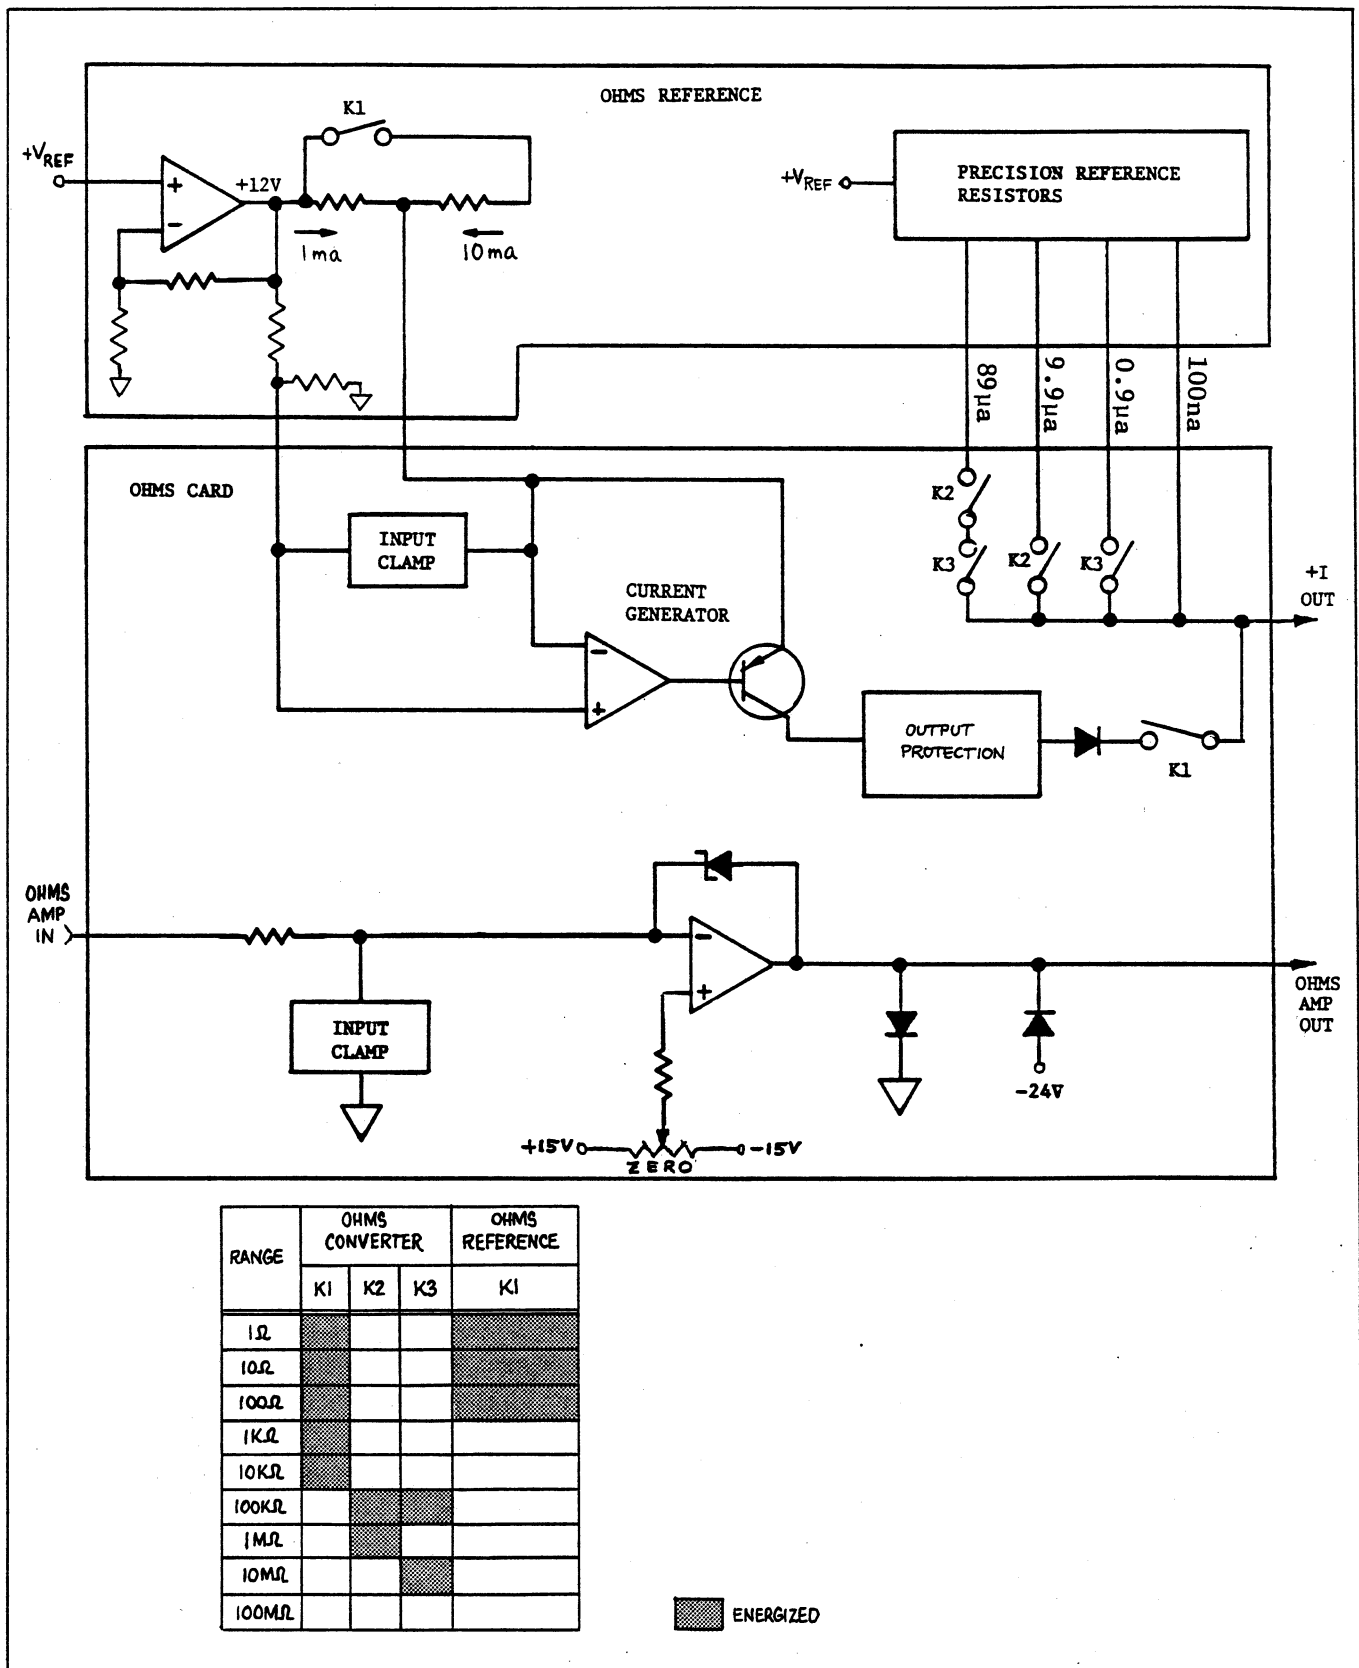

Figure 5.23 - Ohms Converter
5.3.5.10.1 The Ohms Converter (Figure 5.23) is comprised of two circuit boards: Ohms Reference and Ohms Card.
current source becomes a 10 ma current source. The table in Figure 5.23 details the relay closures for each range.
5.3.5.10.3 *Ohms Card.* The Ohms Card routes the appropriate current to the resistance under test and amplifies the returned signal. The current generator (Q1 through Q7 and AR1) supplies the 1 ma or 10 ma output current through K1 on the Ohms Card. The 89.1  $\mu$ a, 9.9  $\mu$ a, 900 na and 100 na currents from the Ohms Reference are routed through K2 and K3 and added together to produce 100 na, 1  $\mu$ a, 10  $\mu$ a and 100  $\mu$ a currents. The table in Figure 5.23 details the relay closures for each range. The circuitry formed by Q8 through Q11 and Q15 through Q17 provides overvoltage protection for the current generator.